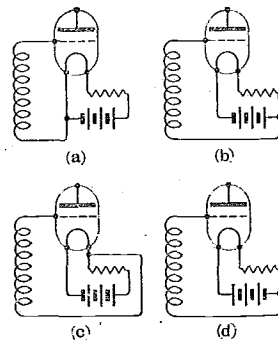

Fig. 12.—Four values of grid bias may be obtained as shown here.
11. By using this system it is a simple matter to try all possible filament and grid connections, and consequently to be certain that each valve is working at its highest efficiency. It is not generally realised that different grid potentials may be obtained by connecting the grid lead to various points on the filament circuit. Fig. 12 illustrates this. Of course, intermediate potentials could be obtained by tapping the junctions of the cells in the accumulator. With the filament circuit so accessible it is a simple matter to adjust the valves, and any jerkiness in the oscillation, known as "overlap," may readily be eliminated. The receiver is most sensitive when it is just oscillating, and if oscillation starts and ceases with a click, it is impossible to adjust the set correctly.